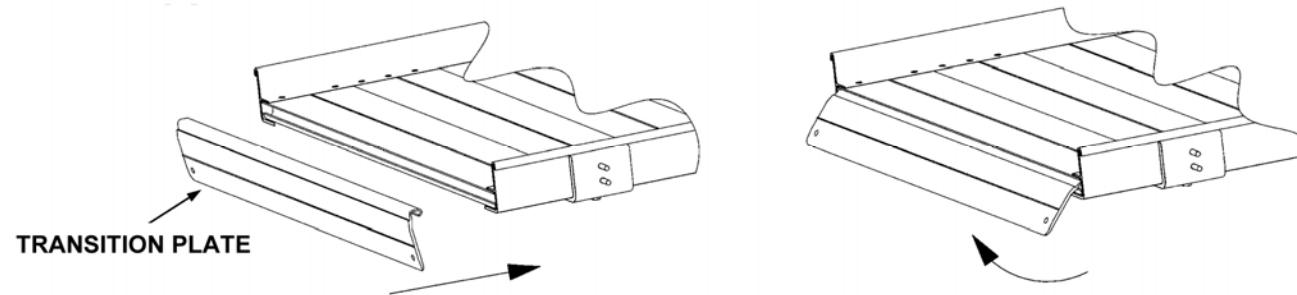

FIG. 16
- xii) Install the bottom transition plate (larger of the two) into what will be the lower end of the ramp (FIG. 16).